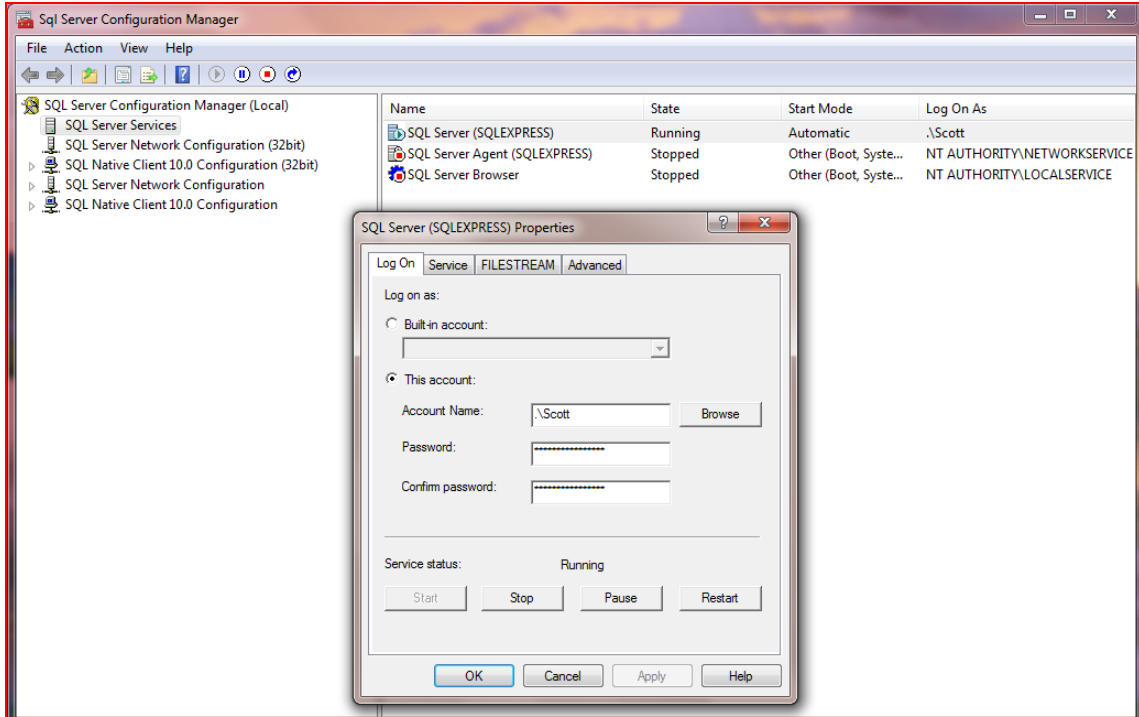

Fig. A.1. SQL Server Management Studio
- If “Log on as:” is set to “Built in account – Network Account”, change it to “Local Service”, or your user id (under “This Account”) as shown in Fig. A.1